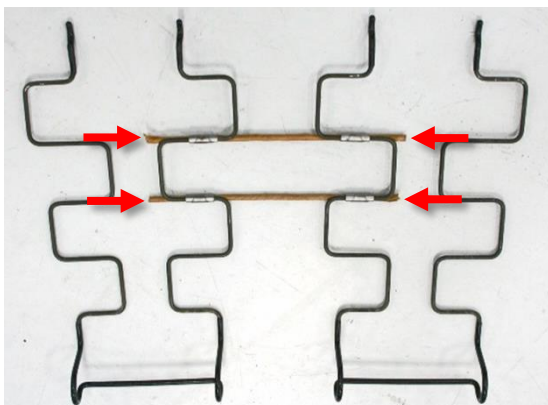

Figure 6
6. Install an end cap over each cross wire end (Figures 6 and 7).